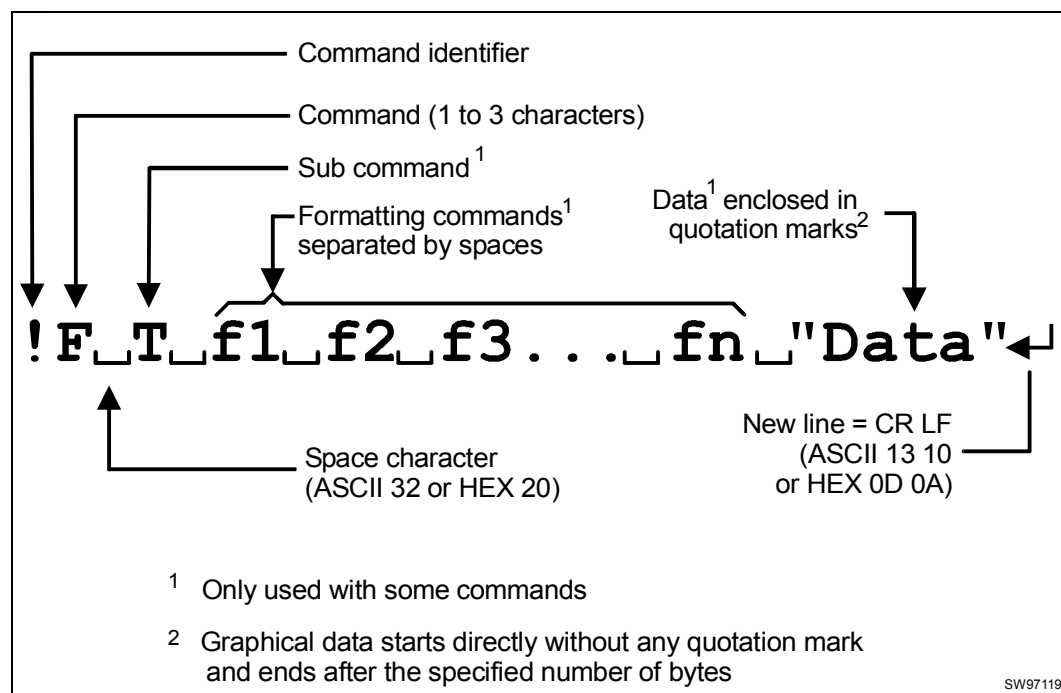

Figure 7. Command syntax
- The characters immediately following the ! (21H) is the actual command to the printer. The command consists of 1—3 characters followed, when applicable, by a sub command, formatting commands, and data separated by space characters as shown in Figure 7.